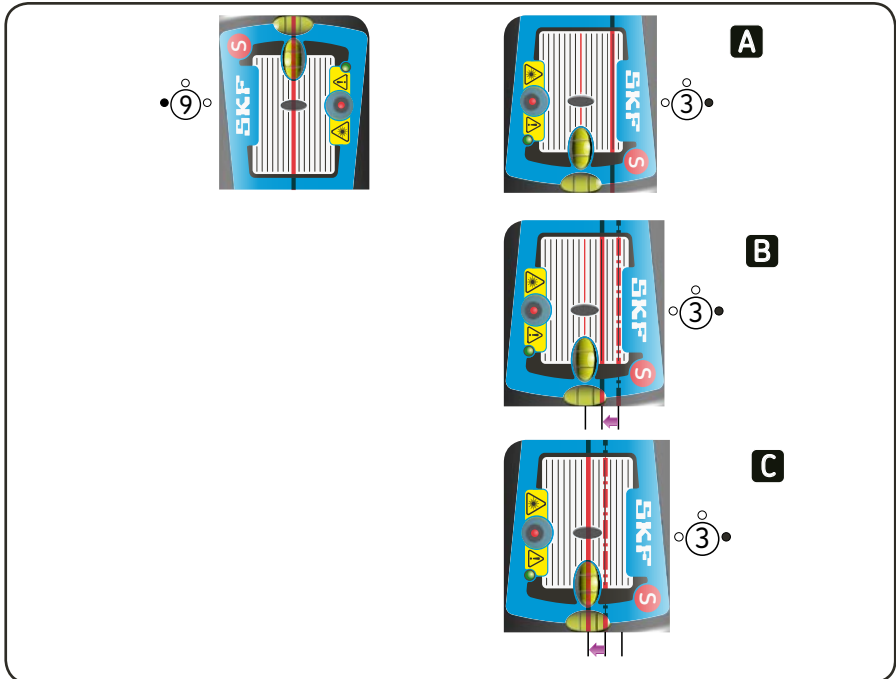

Fig. 13. Rough alignment
- d) If the horizontal alignment is very poor the laser lines might travel outside the detector areas. If this happens a rough alignment must be done. Do this by aiming the laser lines at the positioning detectors in the 9 o'clock position. Turn the measuring units to the 3 o'clock position when the lines will hit outside the detector areas. Adjust the lines to the position half-way between the detector centre and the actual position by means of the adjustment mechanism as per fig. 13. Align the Movable machine until the lines hit the centre of the positioning detector.